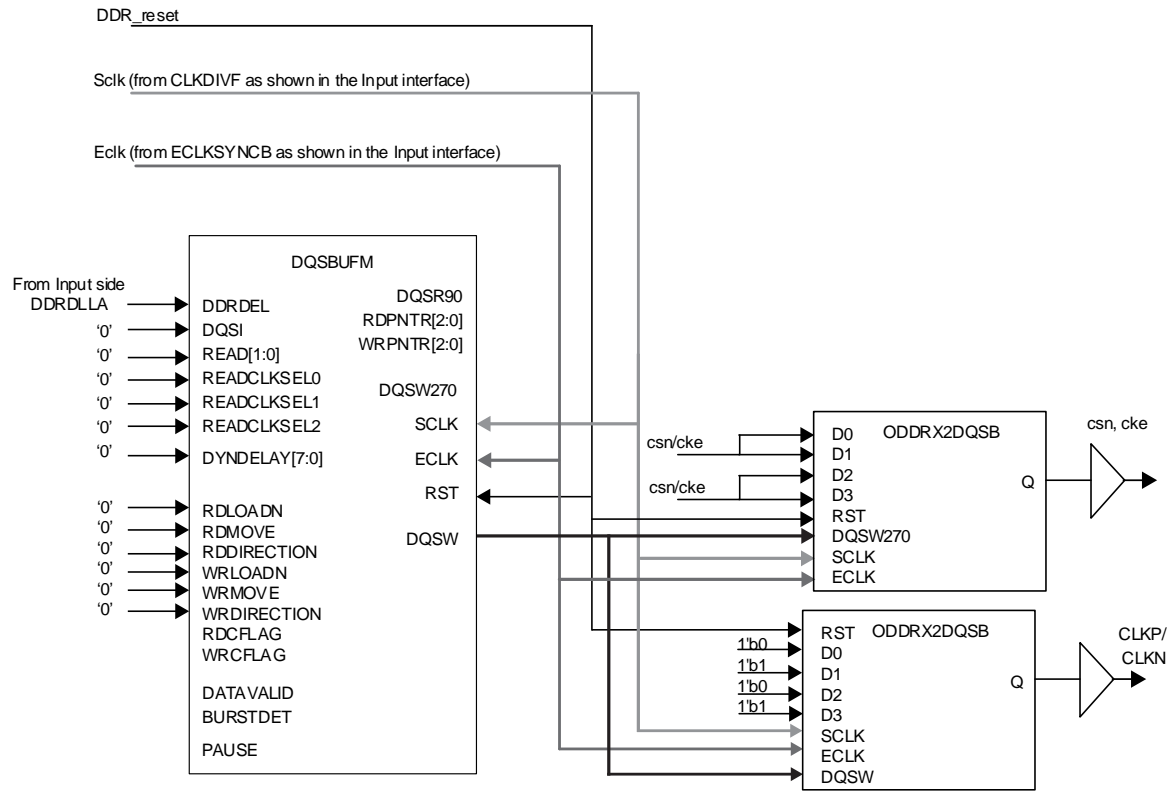

Figure 6.14. LPDDR2 Output for CSN, CKE, and CLOCK Generation
- ODDRX2DQSB with D0 and D1 tied together and D2 and D3 tied together to generate CSN, CKE signals (Figure 6.14 and Figure 6.16).